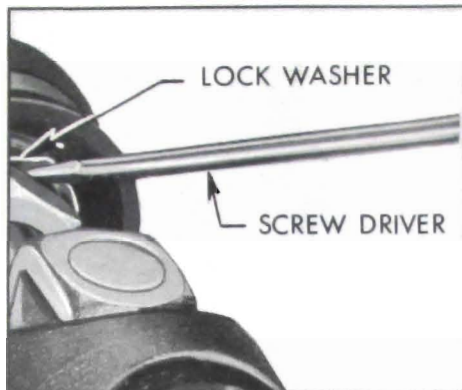

Figure 6-51—Disengaging Lock Washer
1. Pry up rim of lock washer to disengage flats on bearing locknut. Loosen locknut using Tool J-21009 until free of threads and slide locknut and seal against constant velocity joint. See Figures 6-51 and 6-52.